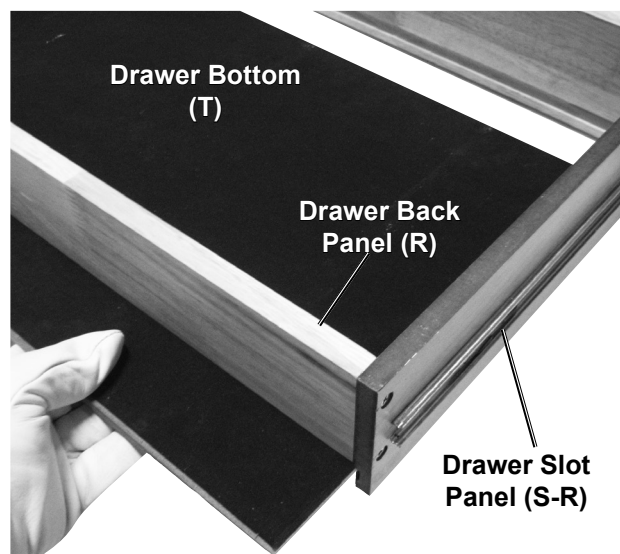

Figure 15
19. Slide the Drawer Bottom (T) into the grooves along the insides of the side panels, making sure the felt side is up, then fasten the Drawer Back Panel to the ends of the two side Panels. See Figure 15, below.